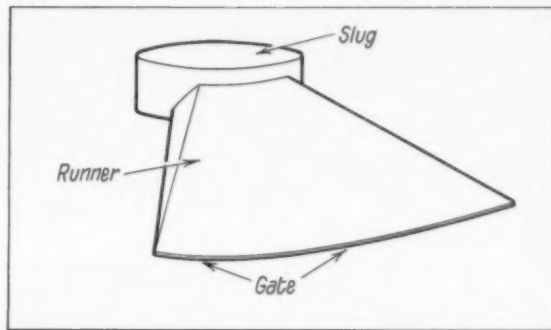

Fig. 12. Gates of this type are seldom satisfactory for aluminum alloy die castings
**F**OR PUDDLE feeding to be achieved, heavy gating is essential. For it to be effective, correct positioning and orientation of the runner, feed, and gate are equally necessary—the two factors cannot be considered in isolation. Wide, thin gates, as in Fig. 12,